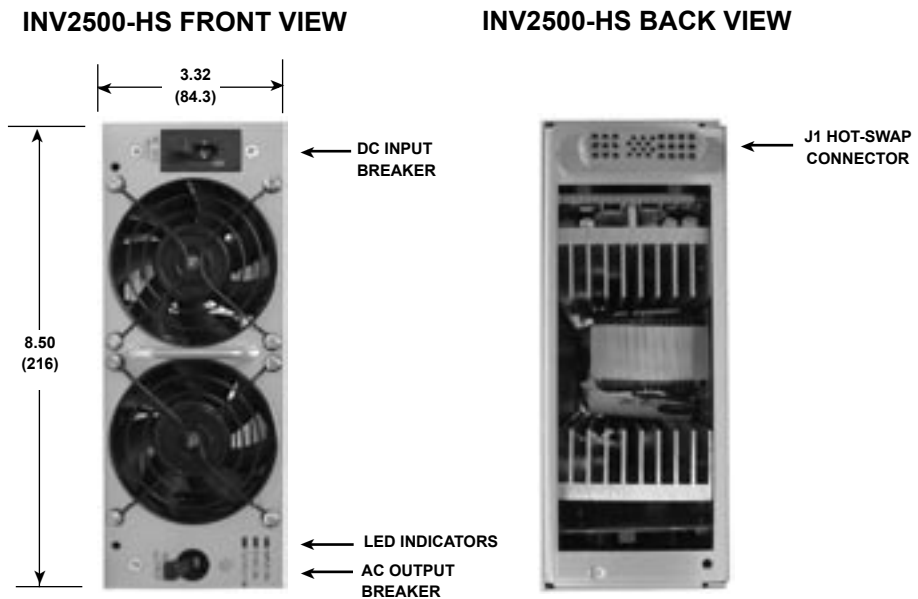

Figure 2. Front and Back Views of Hot-Swap Inverter Module
- 7.1 Figure 2 shows the front and back of an INV2500-HS inverter module. On the top of the front panel of the INV2500-HS is the DC input circuit breaker. Just below are the two cooling fans and then the AC output circuit breaker. To the right of the output breaker from left to right are the green LED indicators for Output OK, Sync OK and Input OK.